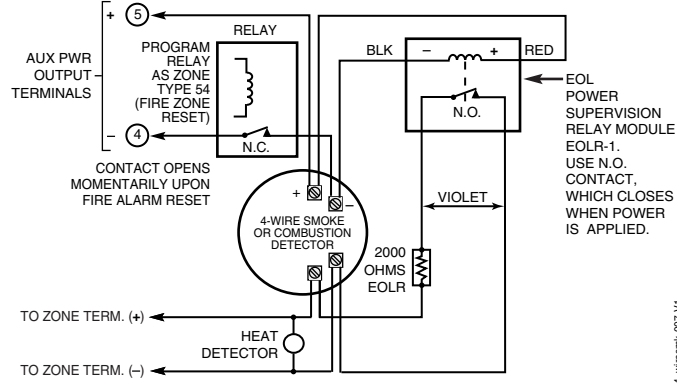

Figure 9a. 4-Wire Smoke Detector Using Relay for Power Reset
3. Connect 4-wire smoke detectors (up to trigger output 17’s maximum current draw 100mA) to any zone from 2-8 as shown in Figure 9a and 9b (on next page).